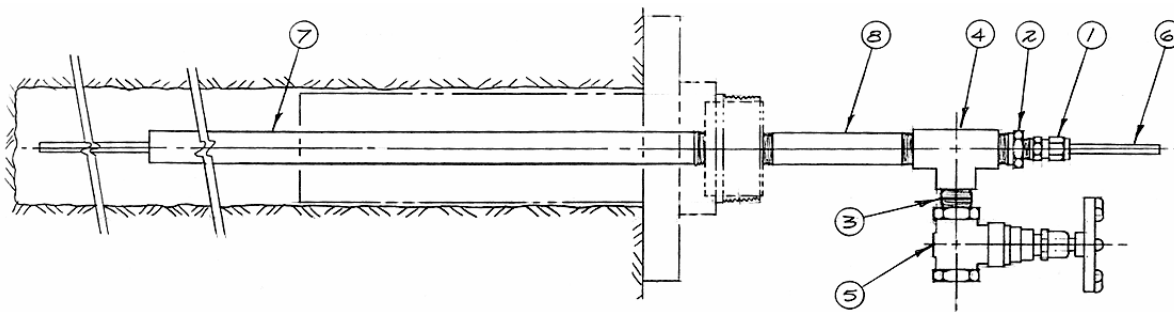

Figure 2 – Upwards Installation Assembly
3.2.3 Using Figure 2 as a guide, screw the **down-hole grout pipe**, (7), into the back of the Tube Mount, screw the **external grout pipe**, (8), into the front of the Tube Mount, thread the **vent tube**, (6), through these two pipes and tape to the deepest borehole anchor so that it protrudes beyond the anchor by a distance of about 30 centimeters. Now slide the **Valve/Tee assembly**, (1 thru 5), over the vent tube and screw onto the external grout tube. Tighten the Swagelok fitting, (1), onto the vent tube